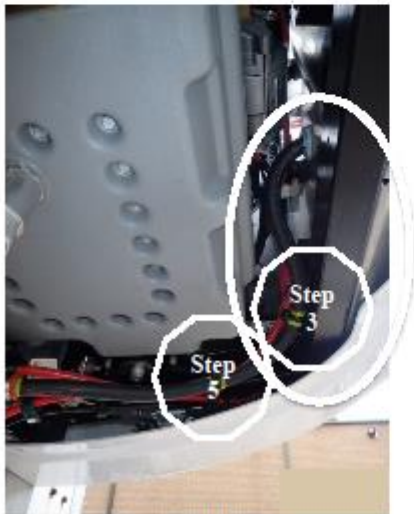

Figure 2
4. Secure high voltage standby cable with heavy duty ty-wrap (part # 44-60024-25). Ty-wrap should be installed approximately 9.5 inches from exit point of control box. Ensure cable is not pulled so tight it creates a gap around rubber grommet in control box (see Figure 2).
5. Insert fir tree ty-wrap base (part # 44-60121-00) in hole provided in the bottom of the frame located by the motor mount (see Figures 2 and 3).